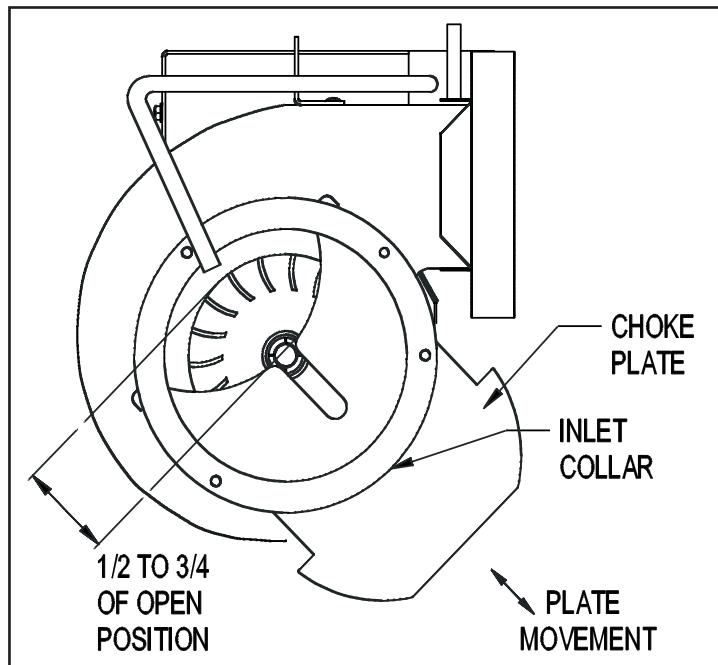

Figure 5
1. To adjust the power venter air flow, open the choke plate $\frac{1}{2}$ to $\frac{3}{4}$ of the way open. (See Figure 5) Follow the appliance manufacturer's procedures for starting the heating appliance.